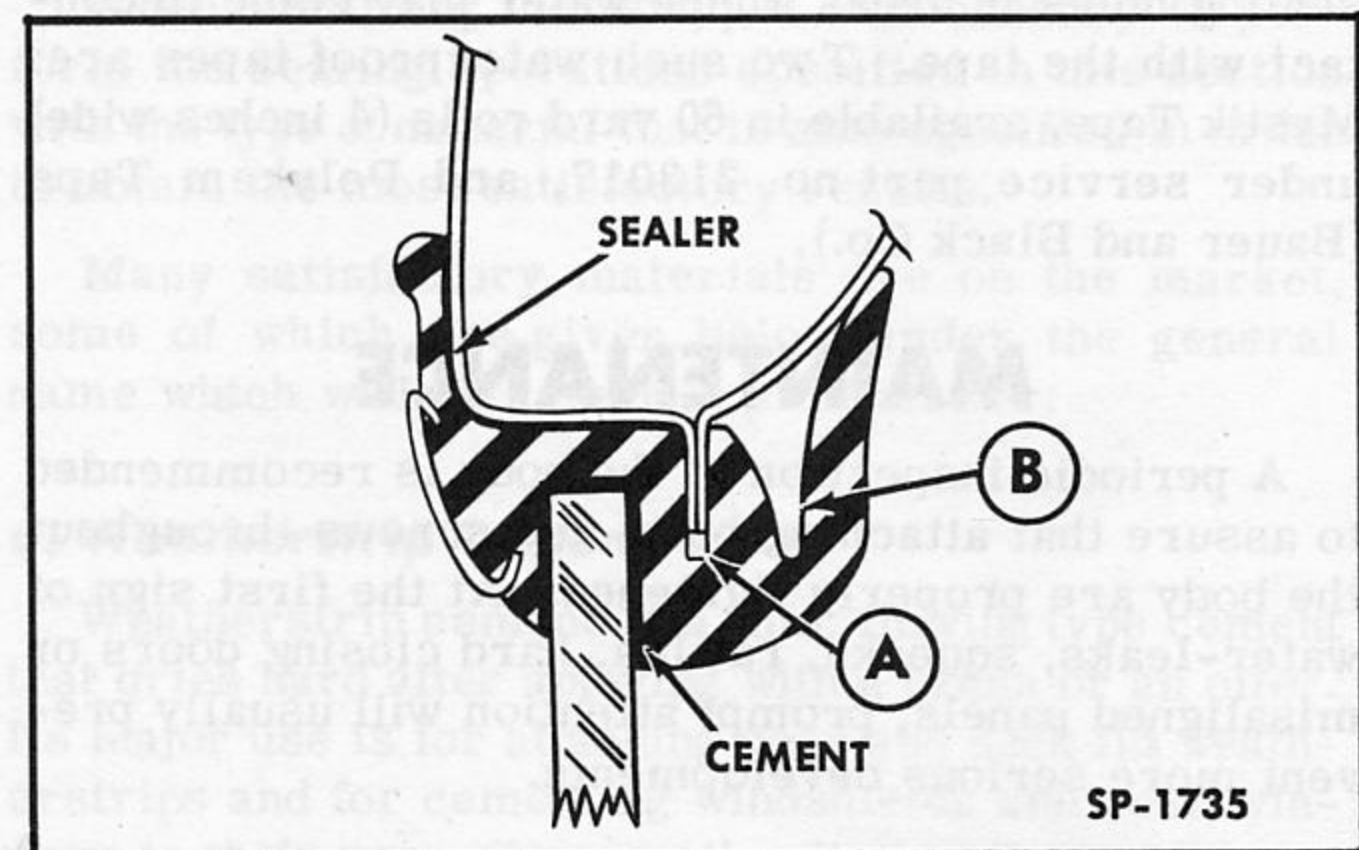

Fig. 229—Windshield Weatherstrip—Sectional View
4. Fit a strong cord in the pinchweld groove (A in Fig. 229) of the weatherstrip, starting at the top and wrapping it completely around the windshield assembly. Then, cross cord over into the outer groove (B in Fig. 229) and continue around the windshield assembly again until ends of cord overlap. Hold cord ends in position with a piece of tape on the inside surface of the windshield.
6. Place windshield assembly on body and, with the aid of a helper pushing against the outside of the windshield, pull the cord end which is in the outer groove B until the entire lip is over the pinchweld flange. Then pull the other cord end (in groove A) in the opposite direction until channel is seated over pinchweld as shown in Fig. 229.